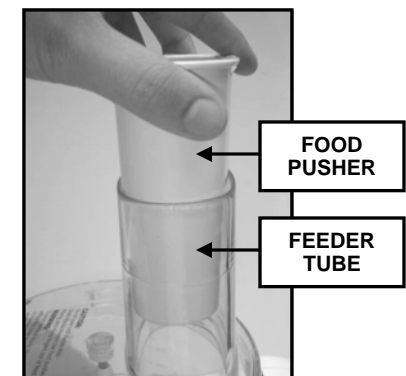

Fig. 10
- Use the food pusher when putting food into the feeder tube. (Fig. 10) **For safety reasons it is always better to use the food pusher, and to NEVER feed food by hand.**